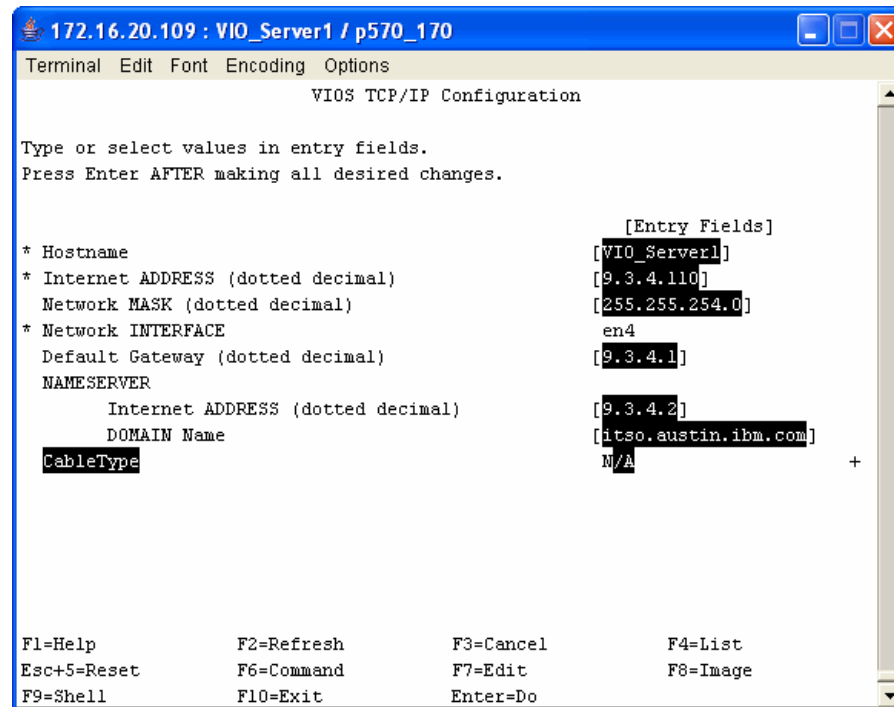

Figure 16-74 Create an IP on the Shared Ethernet Adapter using **cfgassist**
- Define the network configuration for each Virtual I/O Server on the newly created SEA interface. You can use the **mktcpip** command or the **cfgassist** command to launch the SMIT menus, as shown in Figure 16-74 for VIO_Server2.